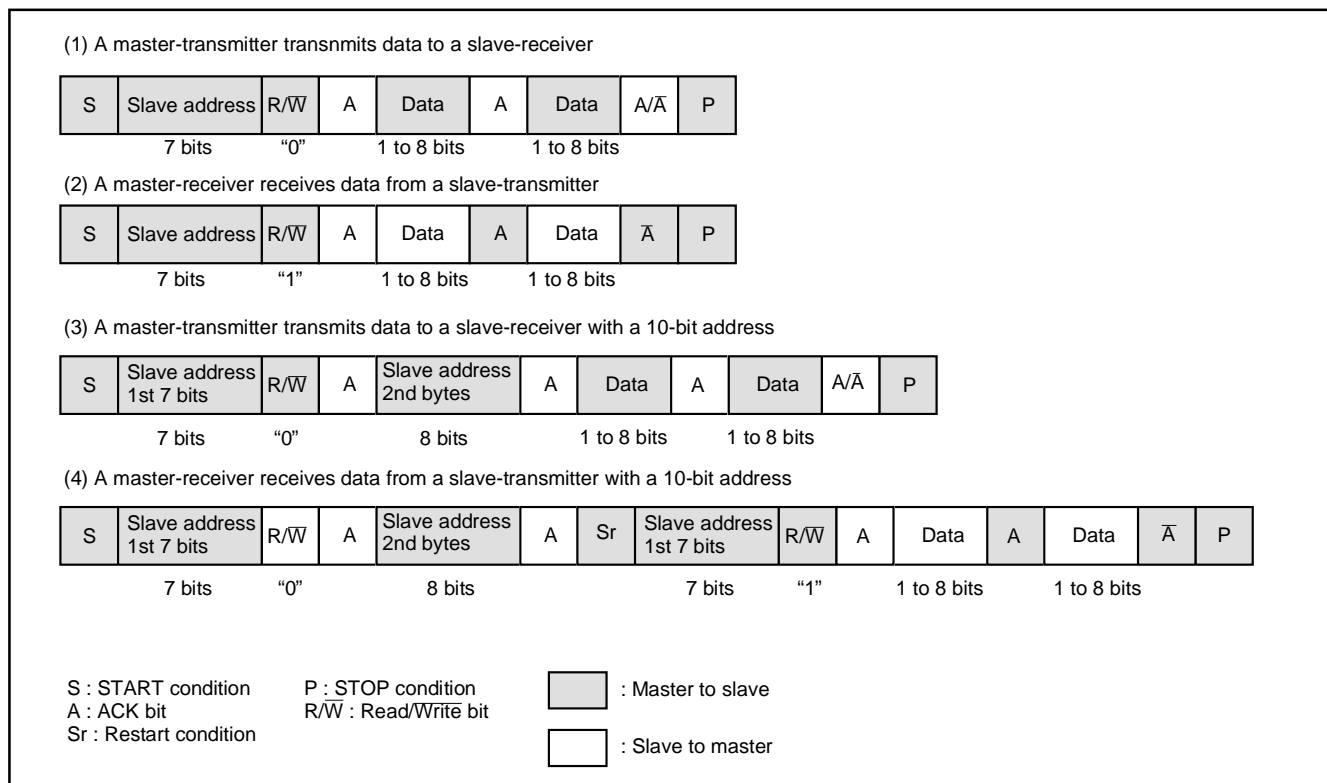

Fig. 39 Address data communication format
**① 7-bit addressing format**
To adapt the 7-bit addressing format, set the 10BIT SAD bit of the I2C control register (address 002E16) to "0." The first 7-bit address data transmitted from the master is compared with the high-order 7-bit slave address stored in the I2C address register (address 002C16). At the time of this comparison, address comparison of the RWB bit of the I2C address register (address 002C16) is not performed. For the data transmission format when the 7-bit addressing format is selected, refer to Figure 39, (1) and (2).
**② 10-bit addressing format**
When the first-byte address data agree with the slave address, the AAS bit of the I2C status register (address 002D16) is set to "1." After the second-byte address data is stored into the I2C data shift register (address 002B16), perform an address comparison between the second-byte data and the slave address by software. When the address data of the 2 bytes agree with the slave address, set the RWB bit of the I2C address register (address 002C16) to "1" by software. This processing can make the 7-bit slave address and R/W data agree, which are received after a RESTART condition is detected, with the value of the I2C address register (address 002C16). For the data transmission format when the 10-bit addressing format is selected, refer to Figure 39, (3) and (4).